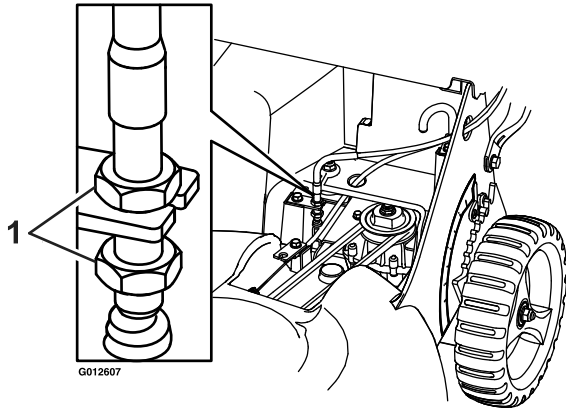

**Figure 32**
3. Remove the belt cover by pulling upward on the back of the cover to unsnap the front and back cover tabs (see Figure 32). Remove any debris under the cover.
3. Pull upward on the back of the cover to unsnap the front and back cover tabs (see Figure 32).